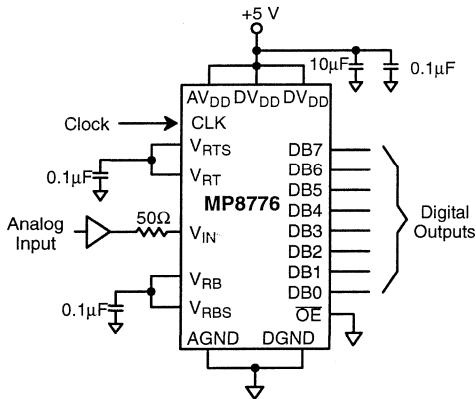

Figure 5. Typical Circuit Connections
AV_{DD} and DV_{DD} should be connected to the sample power supply source (Figure 5). The power supply (AV_{DD} and DV_{DD}) and reference voltage (V_{RT} & V_{RB}) pins should be decoupled with 0.1 μ F and 10 μ F capacitors to GND, placed as close to the chip as possible.
2. It is important to note that op amps have inductive output impedances at high frequencies which is a consequence of the emitter impedance of the typical push-pull output stage. The resulting transient ringing should be damped by inserting a resistor in series with the ADC input – typically about 50 Ω . See Figure 5. The exact value may be obtained from the op amp manufacturer's data sheet.